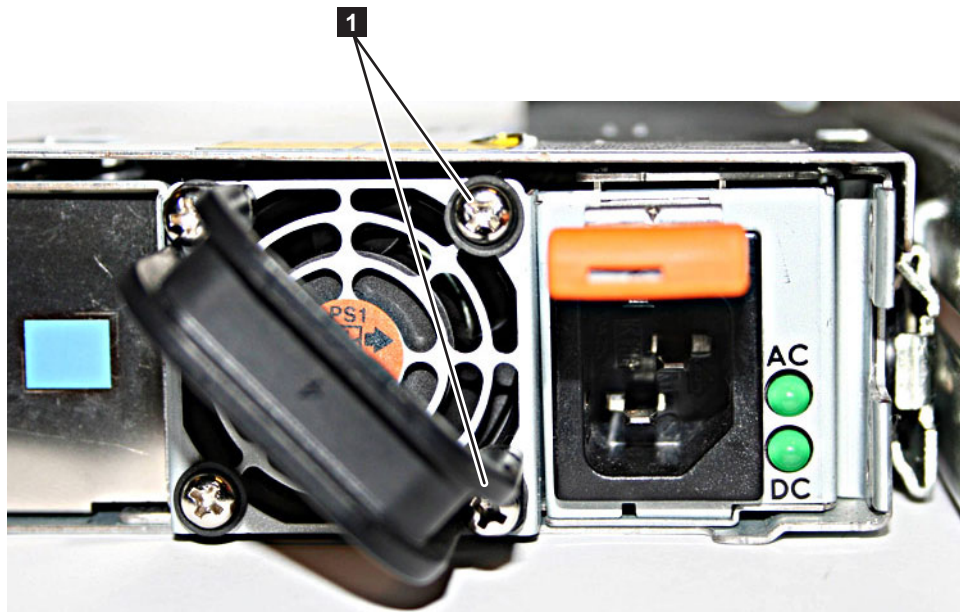

Figure 34. The SAN Volume Controller 2145-8G4 before you attach the cable-retention bracket
1. With the node powered off and the power cable removed, loosen and remove the two screws **1** on the right side of the rear plate that covers the power supply fan unit, as shown in Figure 34.